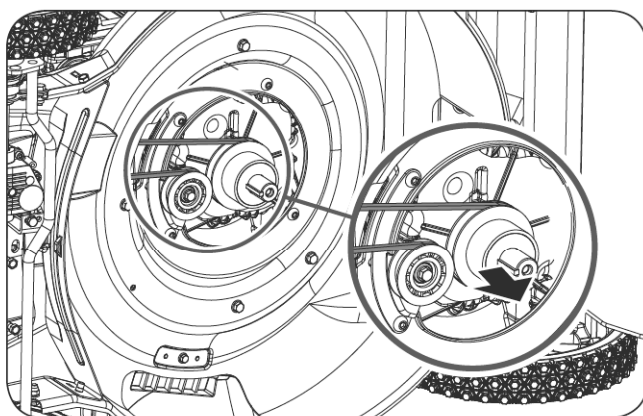

Figure 30
5. Remove the rear end of the V-belt. Replace the new belt and restore it. (See **Figure 30**)